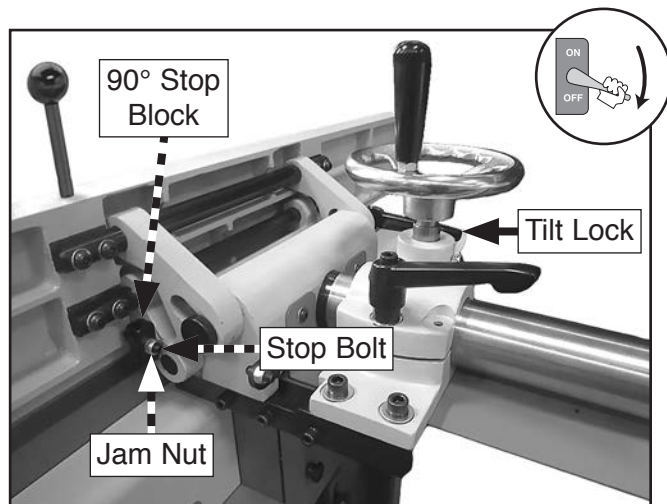

Figure 67. Fence 90° stop block components.
2. Loosen fence tilt lock and 90° stop jam nut, then back off stop bolt (see **Figure 67**).